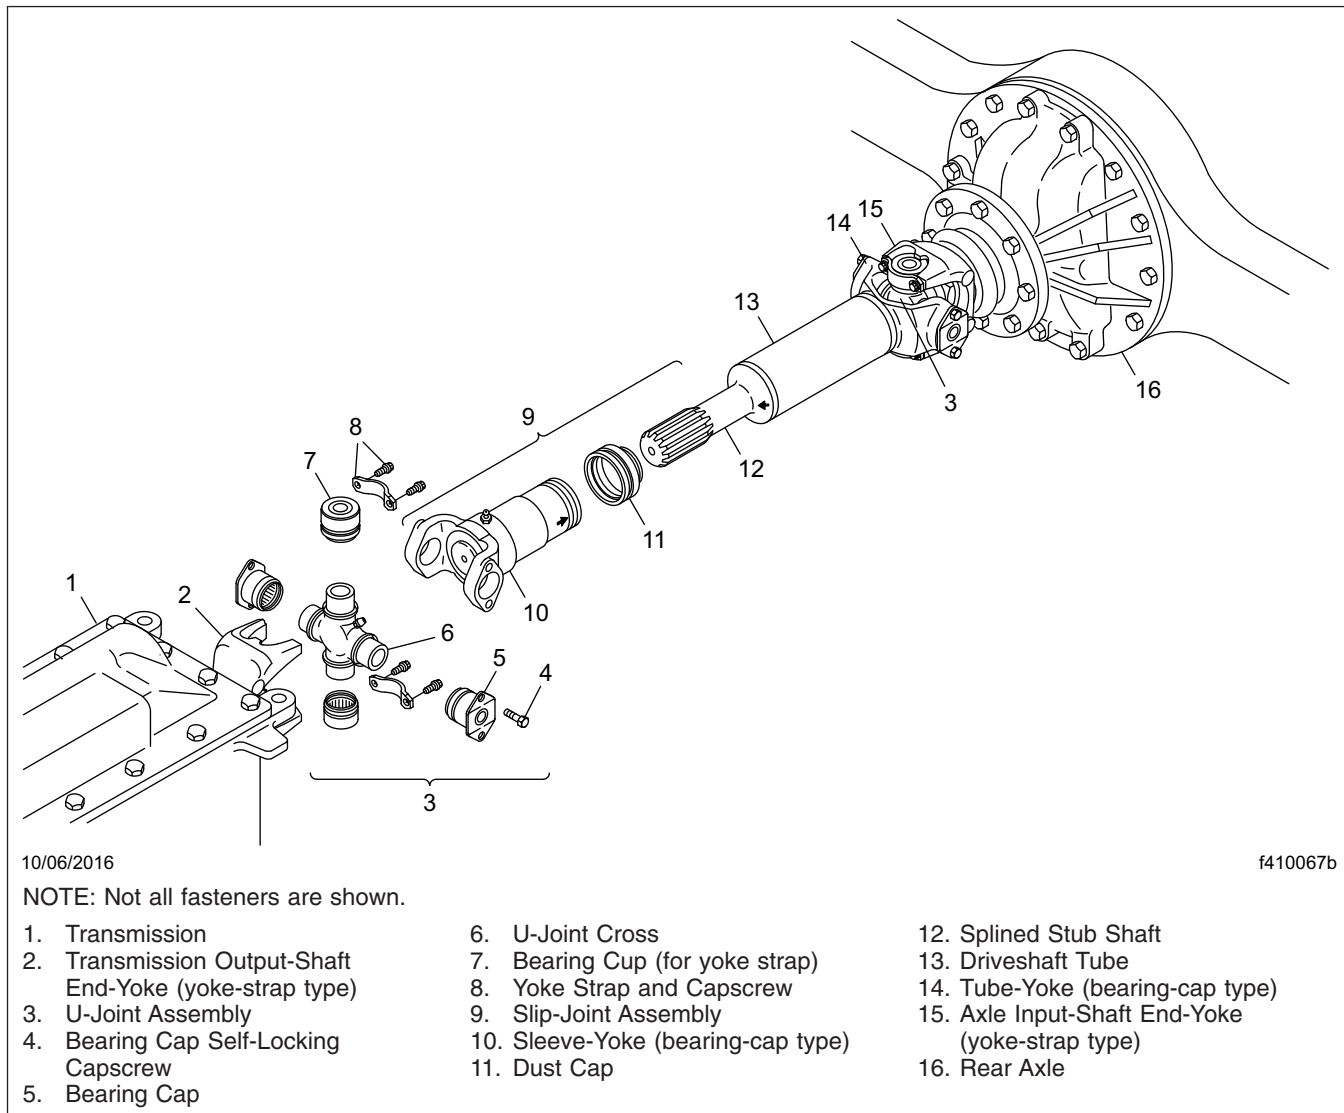

Fig. 3, Components of a Basic Driveline
For driveline universal joints with yoke straps, tighten yoke-strap capscrews 125 lbf-ft (169 N-m). See Fig. 3.
3. Check the driveline yokes for cracks, and check end-yokes for looseness. See Fig. 3.